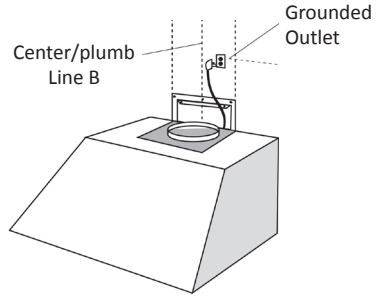

Fig.6
1. Install a 110/120V electric receptacle on the wall within the dimensions of the decorative chimney (Fig. 6). Note that removal of the plug will void the warranty of the range hood.